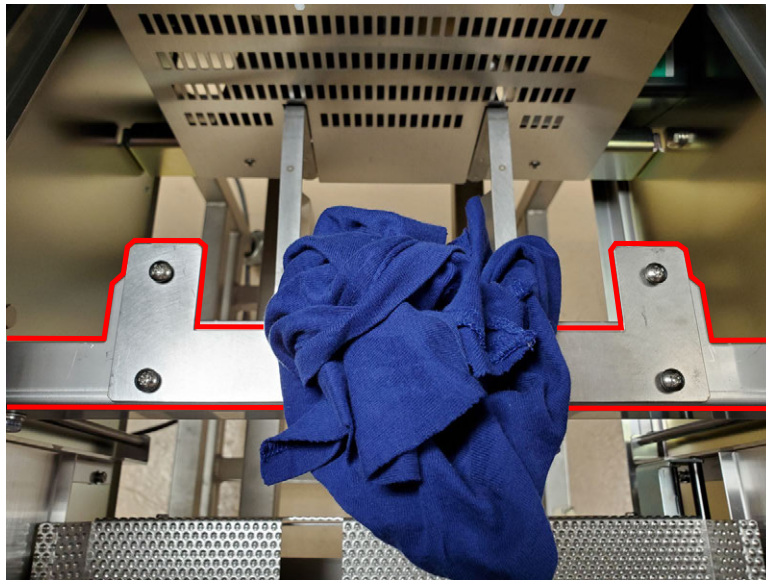

Figure 18.
- 32. Return both package lift assemblies if they were removed for weekly cleaning (see Figure 18 on page 10).